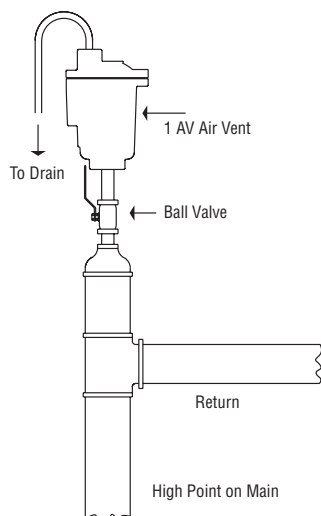

Figure 1. Installation of a Model 1 AV automatic air vent on high point of system.
- Install air vents at all the high points on liquid service systems, hydronic systems, or any liquid storage or distribution system. See Figures 1, 2 & 3 for typical installations.